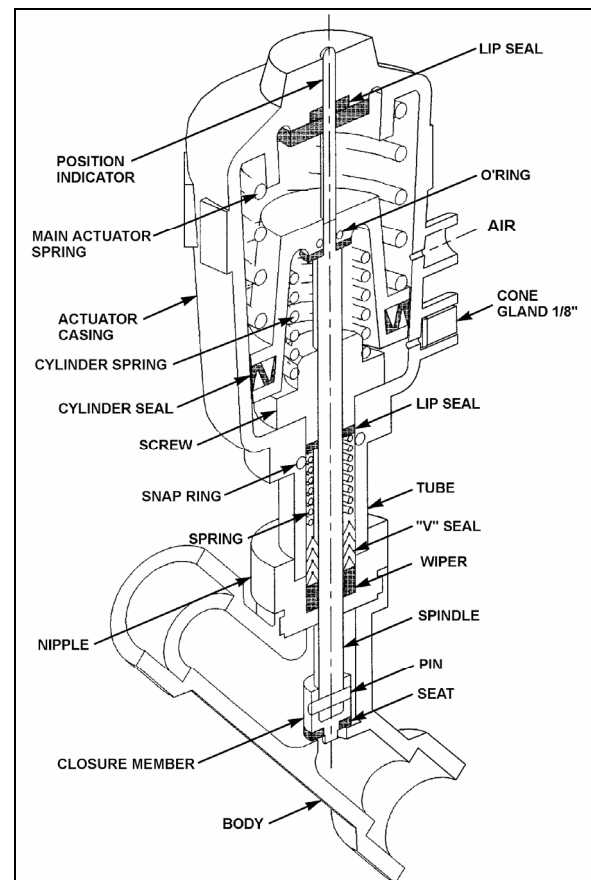

FIGURE 47: PNEUMATIC WATER VALVE 22241
2. The water valve need not be removed from the line. Unscrew nipple, the actuator casing, tube, spindle and closure member can be removed (Fig. 47).